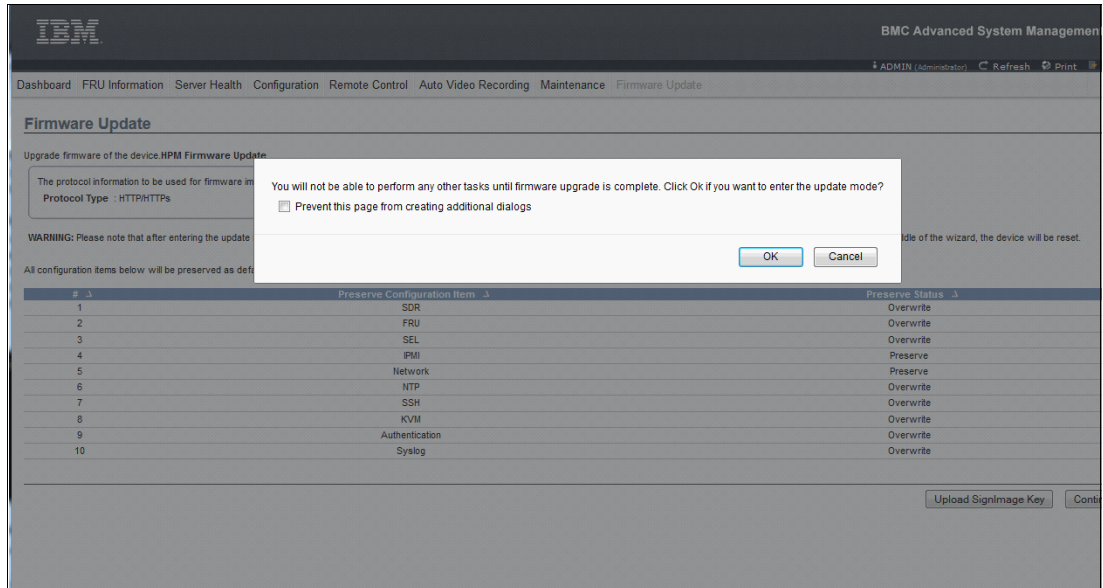

Figure 3-7 Confirm firmware update mode
- The next window prompts whether you want to continue to the update mode, as shown in Figure 3-7. Until the firmware update is completed, no other activities can be performed in the Advanced System Management Interface. If you want to proceed, click **OK**.